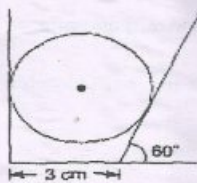

Fig 3.
- (ii) A smooth sphere of 2kN weight and 2cm radius is resting against the walls as shown in figure 3. Determine the reaction at supporting points. (6)